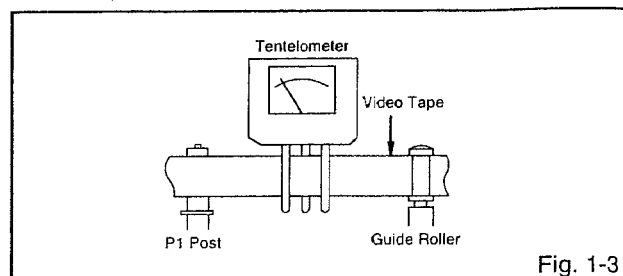

Fig. 1-3
2. Install the tentelometer as shown in Fig. 1-3. Confirm that the meter indicates 20 ± 2 gf in the beginning of playback.